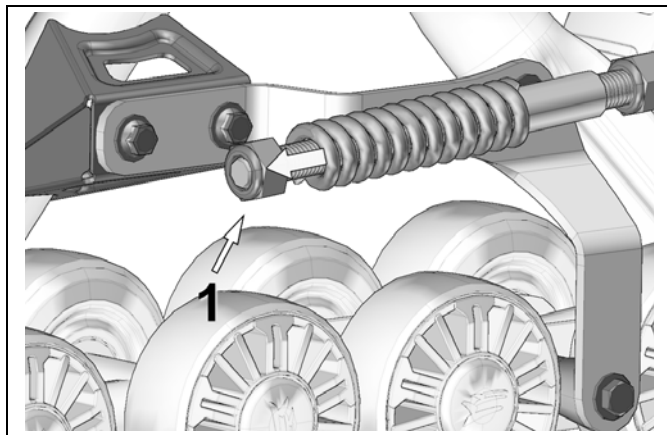

Figure 10
- Loosen the nut (1) compressing the spring of the stabilizing rod. See Figure 10.